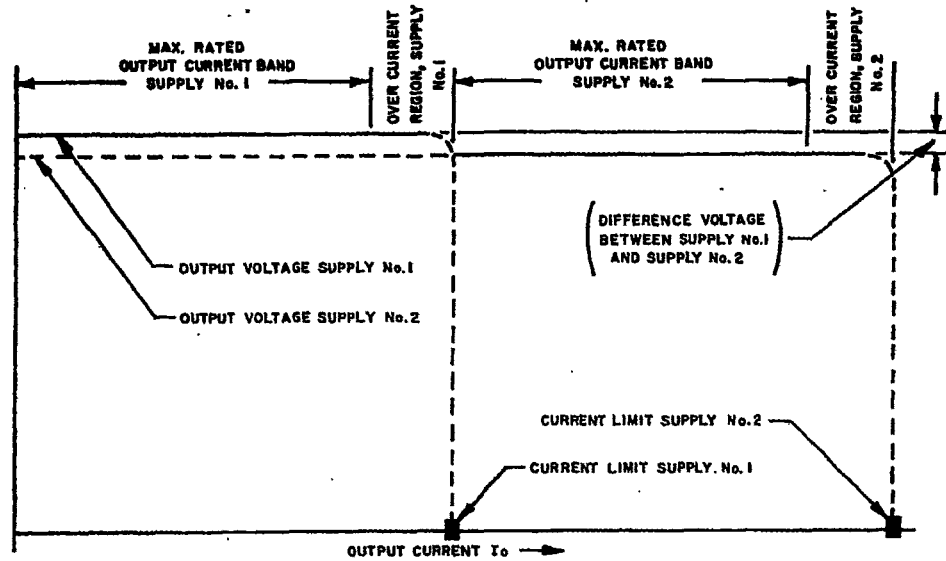

FIG. 3-12 "AUTOMATIC" PARALLEL OPERATION (TWO SUPPLIES).
**NOTE:** The diagram below (refer to FIG. 3-12) shows how the two power supplies operate in the parallel mode. As seen from FIG. 3-12, load variations should be confined within the stabilization region of SUPPLY # 2 since there is an initial adjustment error ( $\Delta E_o$ ) between the two supplies.